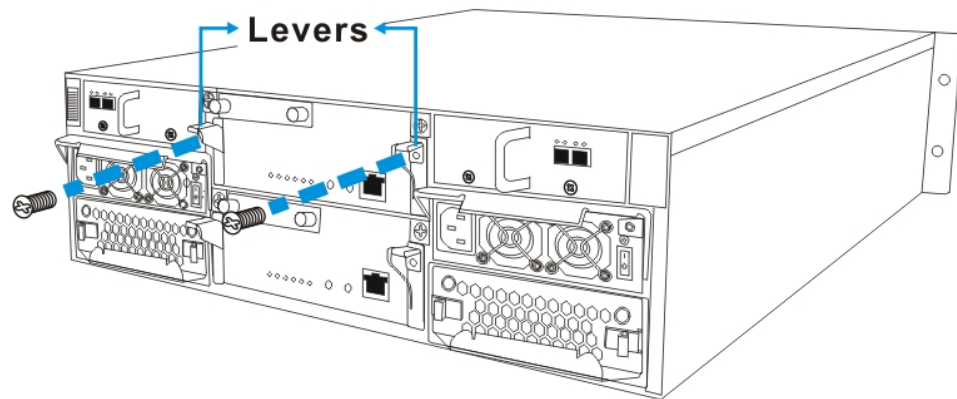

Fig. 2.6 Installing the Controller Module Screws
4. Secure the controller module to the subsystem by installing the two (2) screws on the levers. (See Figure 2.6.)